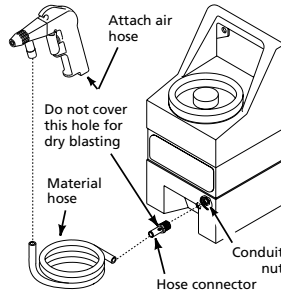

Figure 6 - Model AT121002
2. Attach the material hose to the hose connector. Attach the opposite end of the material hose to the gun (See Figure 6). Never use hose clamps to secure the hose.